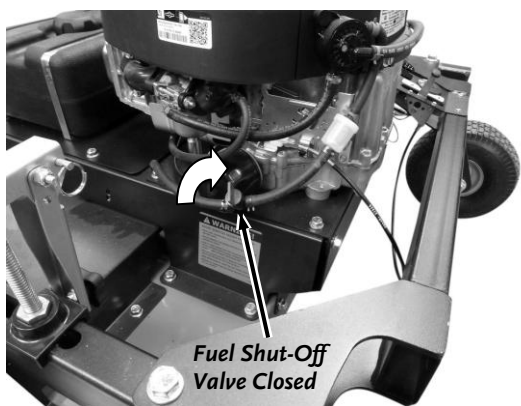

Figure 43
1. **Pro XL60TF model:** Turn the Fuel Shut-Off Valve to the Closed position (Figure 43).